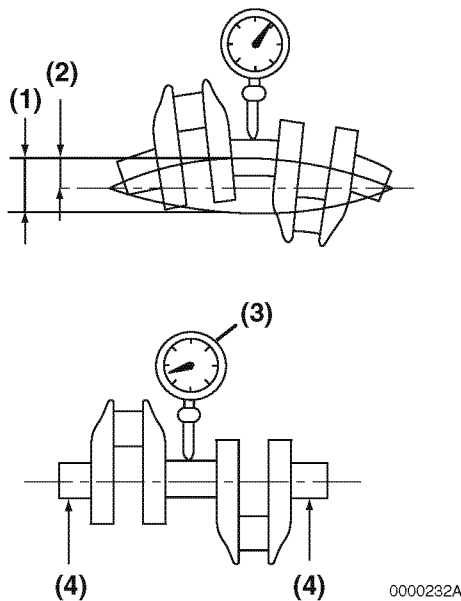

Figure 6-122
1. Place the crankshaft end journals (**Figure 6-122, (4)**) on V-blocks.
2. Place a dial indicator (**Figure 6-122, (3)**) on a center main bearing surface.